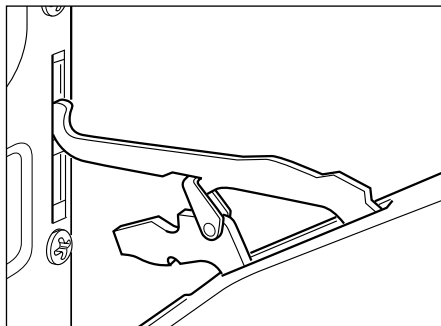

Fig.28d
- Now pull the oven door forwards off the appliance. Release both hinge sections from the slots (Fig. 28d).